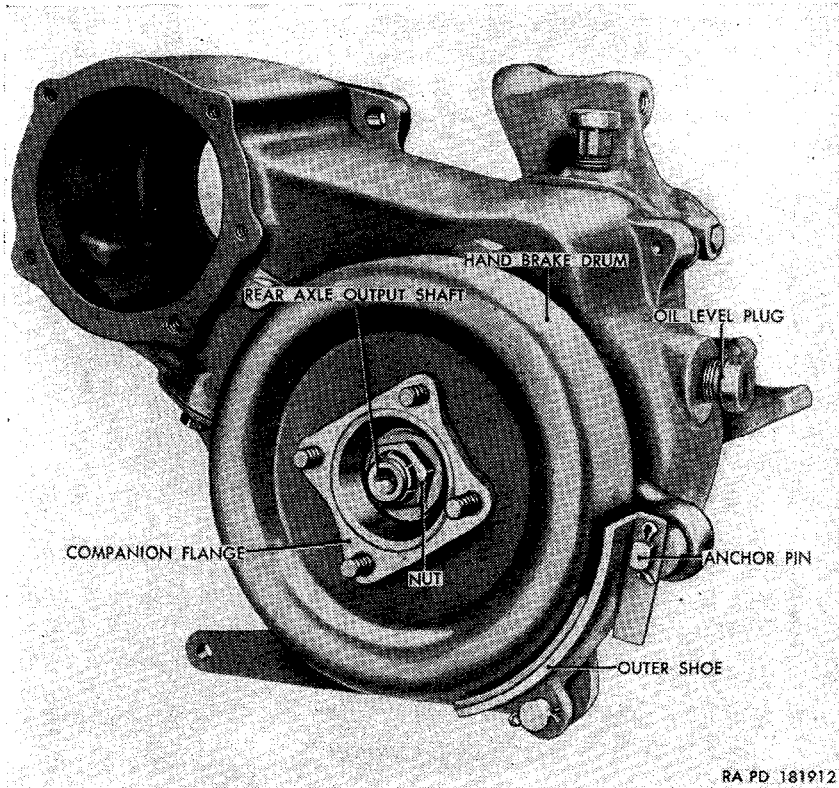

Figure 128. Transfer removed.
- h. Remove the nut (fig. 128) and washer securing the companion flange to the rear axle output shaft. Using a suitable puller, pull the
i. Remove the nut and lockwasher securing the anchor pin (fig. 128) to the transfer. Pull the anchor pin, with inner and outer shoes attached, from the transfer.
a. Insert the anchor pin (fig. 128), with inner and outer shoe attached, through the hole in the retainer of the transfer. Secure the pin to the retainer with one $\frac{5}{8}$ -inch washer and nut.
b. Position the hand brake drum (fig. 128) on the companion flange, with the drum rim toward the flange hub. Secure the drum to the flange with four $\frac{3}{8} \times 1\frac{1}{8}$ bolts with bolts in position shown in figure 128. Aline the flange splines with the rear axle output shaft splines. Install the flange on the shaft, making certain the inner and outer shoes are alined to mate with the brake drum rim. Using a soft mallet, tap the flange into position on the shaft. Secure the flange to the shaft with one $\frac{3}{4}$ -inch washer and $\frac{3}{4}$ -inch nut.